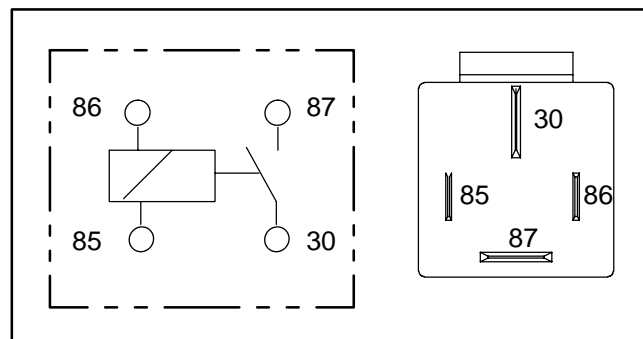

Figure 20
4. Verify coil resistance between terminals 85 and 86 with a multimeter (ohms setting) (Fig. 20). Resistance should be approximately 72 ohms.